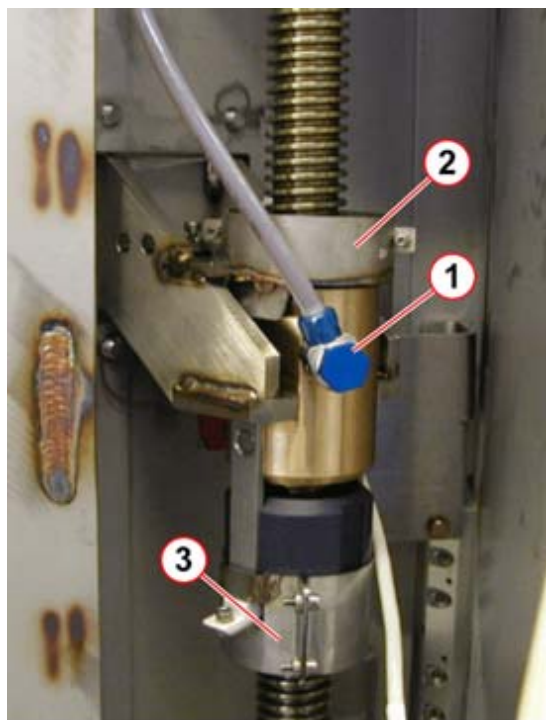

Fig. 14: Spindle nut
- Remove the lubricant hose including the connection (1/Fig. 14 / p. 21).
- Take off the upper splash protection (2/Fig. 14 / p. 21) by first removing 2 screws on the front covers. Next, take off the back cover by removing one screw.
- Disassemble the bottom splash protection (3/Fig. 14 / p. 21) and use it for the new spindle.
The covers (2/Fig. 14 / p. 21) will still be needed for the new spindle.